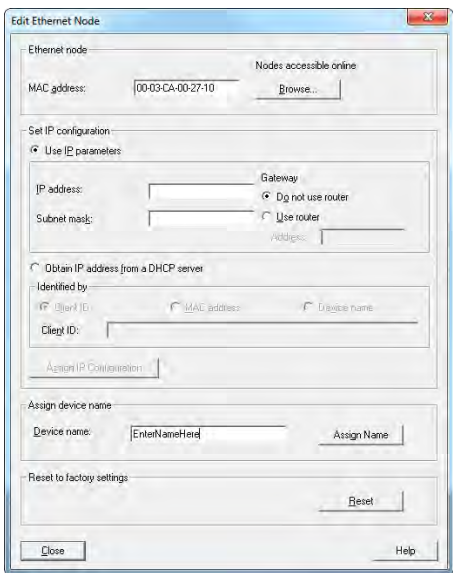

Fig. 49: Select the MTS R-Series Profinet sensor (step 3) (source: Siemens)
3. Assign a device name and confirm your entry with “Assign name” (Fig. 49).